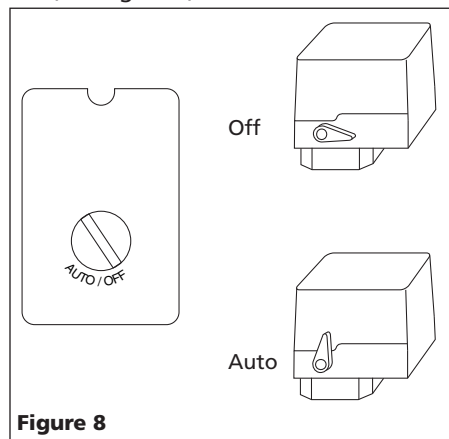

Figure 8
Dual voltage motors may be connected for either 120 volts or 240 volts. By comparing the plug on the cord with the receptacles shown in Figure 8, you can determine for which voltage your compressor is factory wired.
4. Turn pressure switch lever or knob to AUTO position and run unit for 30 minutes to break in the pump parts (See Figure 8).